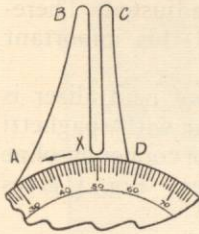

FIG. 2
The curves in the two graphs shown in Figs. 2 and 3 are somewhat exaggerated to make it easier to understand the action of the neutralizer.
**B**Y ROTATING the dial (Fig. 2) in the direction of the arrow, we find a quiet spot X at the reading 50 and extending one or two degrees either side of it. By continuing slowly to rotate the dial, we immediately reach the full squeal intensity indicated at B. As the dial continues to rotate, the squeal intensity gradually decreases to A. On the other side of X, rotating the dial in the opposite direction, we immediately reach the full squeal intensity as before at C, but here the decrease in intensity is very rapid, ending at D.
Obviously, if your receiver produces squeals similar to those indicated in Figs. 2 or 3, the condenser tubing
Showing the other extreme of unbalanced neutralization. The correct "squeal curve" will result from a neutralizer condenser setting equal to the average of the settings in Figs. 2 and 3